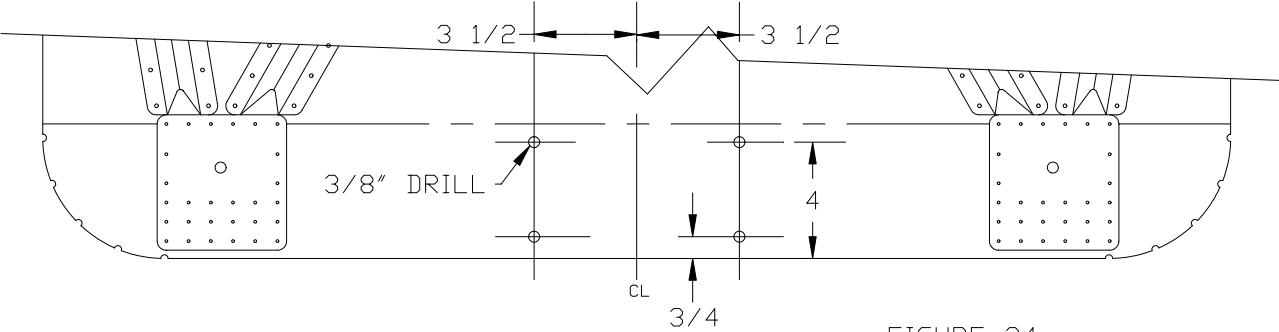

FIGURE 34
66) Drill four 3/8" hole at the bottom center of the firewall as in Figure 34.